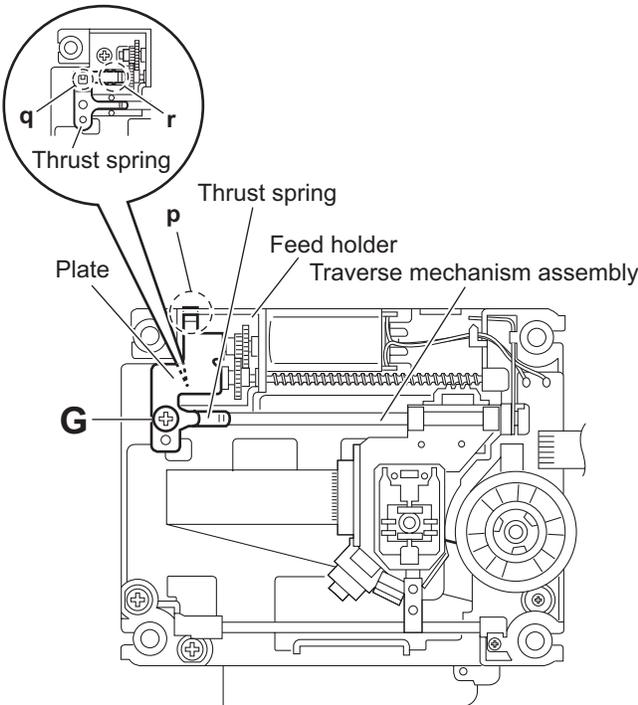

Fig.10
### 3.2.7 Removing the feed motor (See Figs.10 to 12)
- (1) From the top side of the traverse mechanism assembly, remove the screw **G** attaching the plate and thrust spring. (See Fig.10.)
- (2) Remove the engagement section **p** attaching the plate to the feed holder and remove the plate. (See Fig.10.)
- (3) Remove the engagement sections (**q, r**), remove the thrust spring. (See Fig.10.)